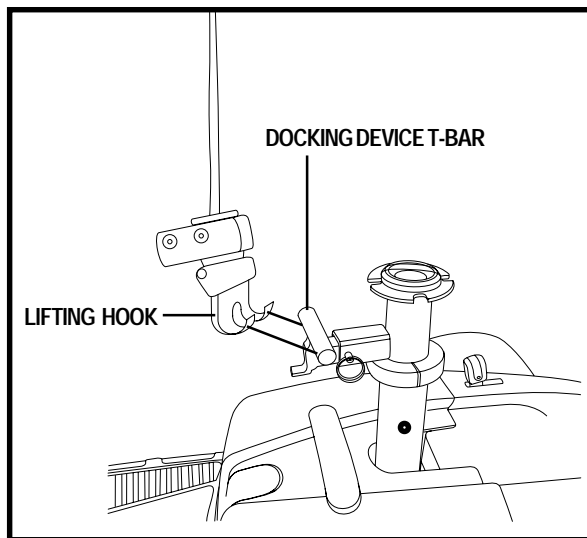

Figure 15. Lifting Hook Placement
4. Operate the lift (via the hand/remote control in the downward direction) until the lifting hook reaches the T-bar. The lift strap should drop straight down to the T-bar. **See figure 15.**
5. Place the lifting hook onto the docking device T-bar. **See figure 15.**